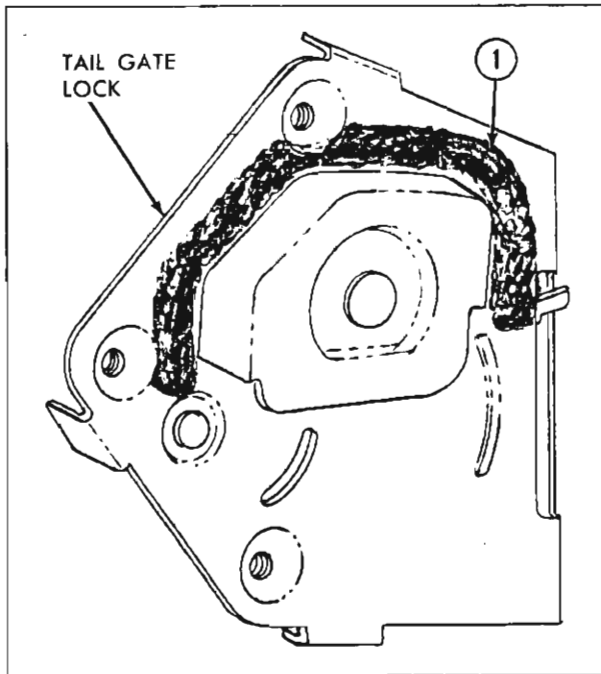

Fig. 5-18 Tail Gate Lock—Sealing
5. To install tail gate lock assembly, reverse removal procedure. Prior to installing lock assembly into tail gate, apply a bead of body caulking compound to lock frame along the joint of the lock bolt housing ("1" in Fig. 5-18).